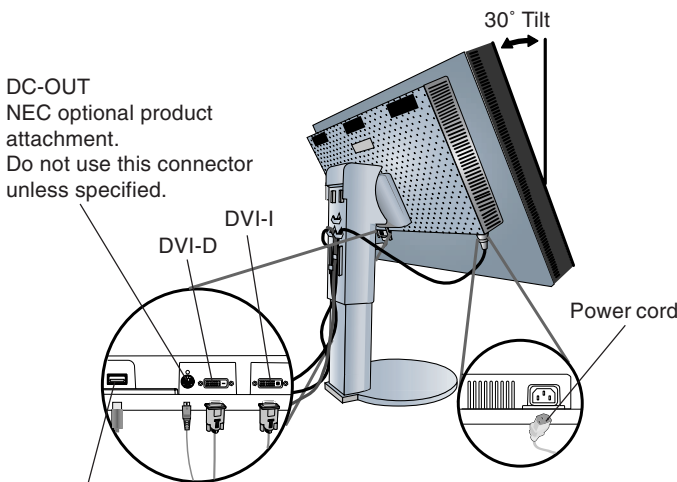

Figure C.1
3. Place hands on each side of the monitor to tilt the LCD panel to a 30° angle and lift up to the highest position (**Figure C.1**).
4. Connect all cables to the appropriate connectors (**Figure C.1**).